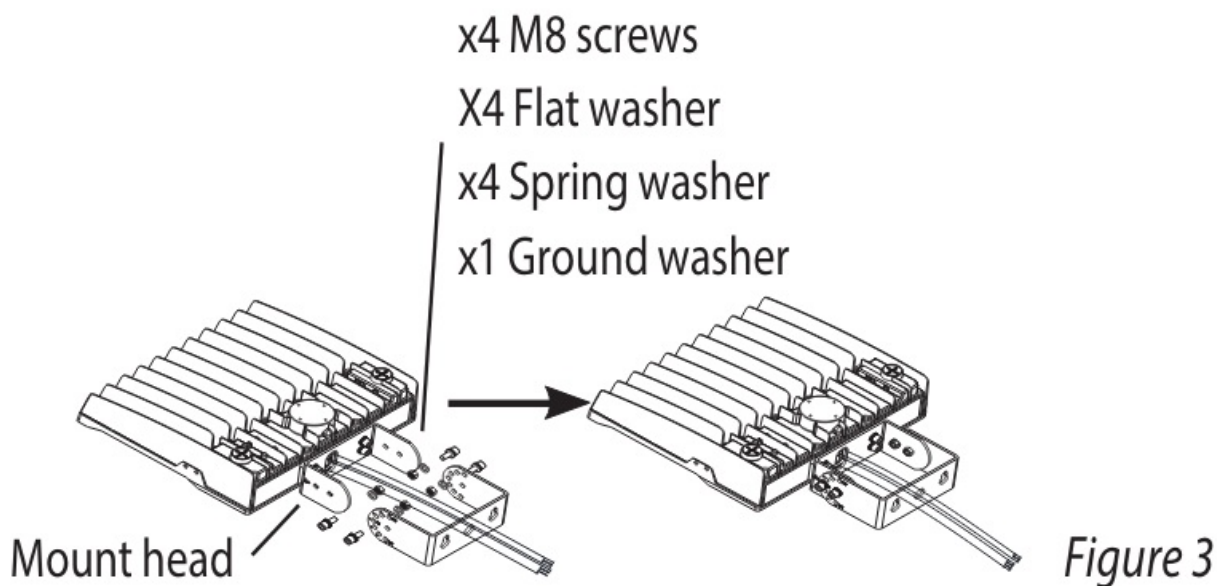

Figure 3
3. Pass the wires through the trunnion mount head. Install the mount head and keep M8 screws loose. (Figure 3)